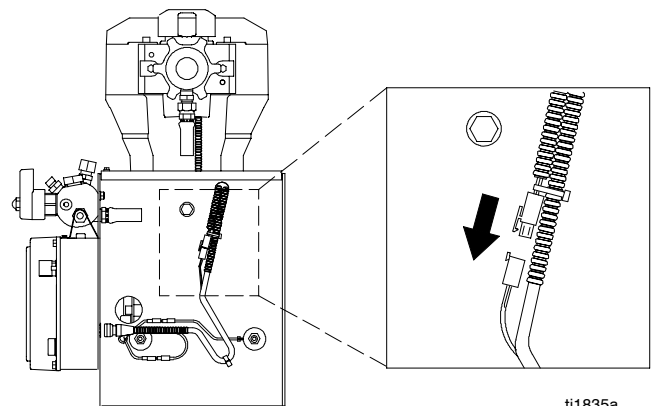

Fig. 4
- Liberaly apply bearing grease (supplied with replacement gear cluster) to gear cluster (102), washers (104) and (105) and to areas called out by note 1. Use full 0.68 pint (0.32 liter) of grease for GMax 7900.
- Place bronze colored washer (105) and silver colored washer (104) onto drive housing (71). Install gear cluster (102) through washers (105) and (104).
- Place bronze colored washer (71g) and silver colored washer (71h) on shaft protruding from large shaft of drive housing (71). Align gears and push new drive housing straight onto pinion housing and locating pins (B).
- Install two washers (87) and screws (59).
- Install four lock washers (87) and cap screws (56) into drive housing (71).
- Install cover assembly (13) with six lock washers (87) and cap screws (56).
- Fig. 4. Reconnect gallon counting sensor.